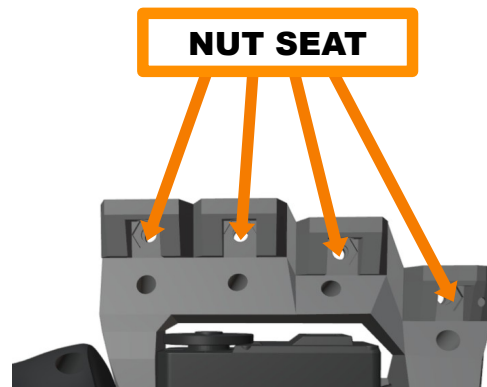

Figure 5.17: Nut seat
1. Insert the finger into the slot (figure 5.17)
2. Insert two screws from behind (figure 5.17)